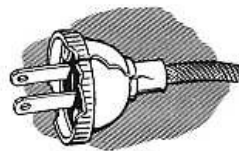

Figure 8
- 10. Broken plugs (Figure 8)——